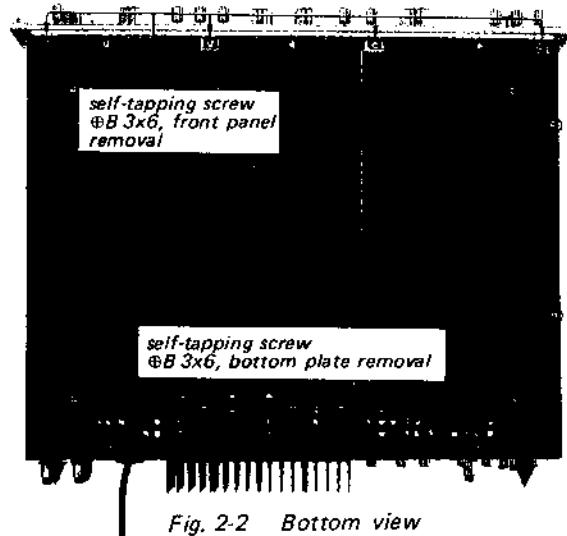

Fig. 2-2 Bottom view
2. Remove the ten self-tapping screws ($\oplus B 3 \times 6$) at the bottom of the receiver (see Fig. 2-2) and pull the bottom plate in the direction indicated by the arrow in Fig. 2-2.
4. Remove the four self-tapping screws (\oplus B 3x6) at the front bottom of the chassis as shown in Fig. 2-2. This frees the front panel.